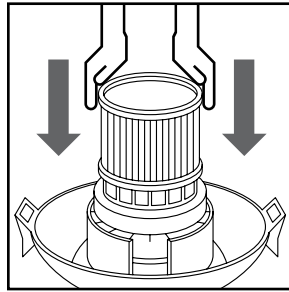

FIGURE 10
15. With the tank cover in an upside down position, slide the cartridge filter down over the lid cage, pushing until the filter seals against the cover. (**FIGURE 10**)